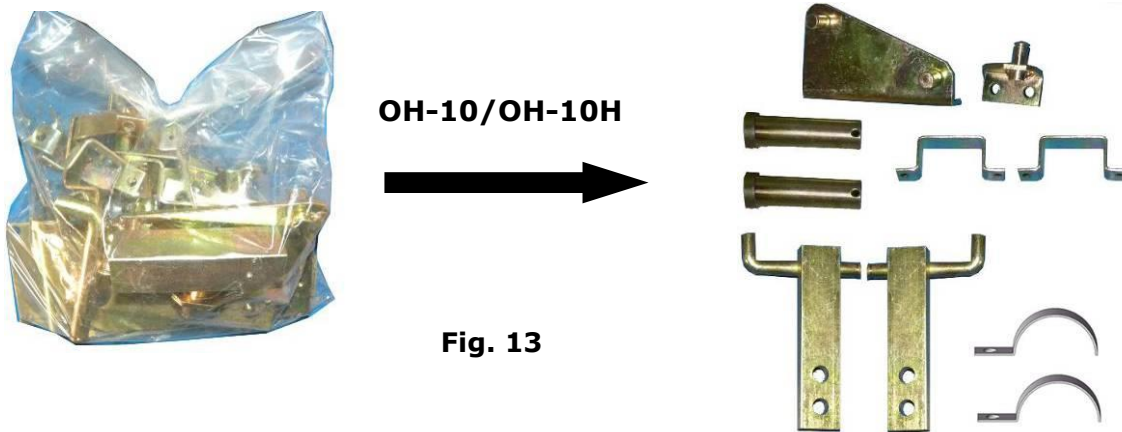

Fig. 13
6. Open the bag 2 of parts and check the parts according to parts bag list (See Fig. 13).